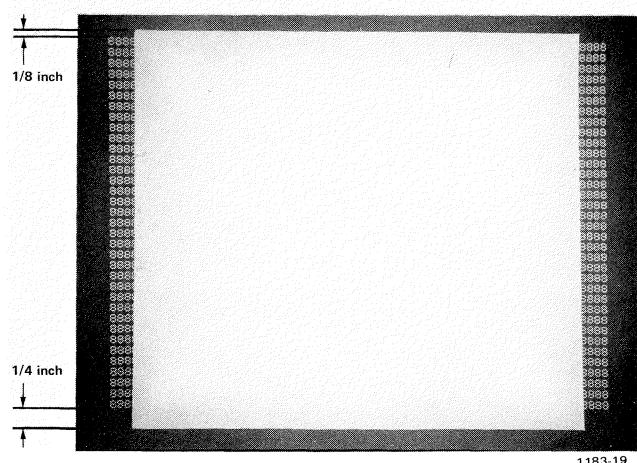

Fig. 4-14. HCY AMP Adjustment Display.
f. Check Hard Copy Y amplitude. The stored scan bar should extend approximately 1/4 inch below and 1/8 inch above the stored 8s, as in Fig. 4-14.